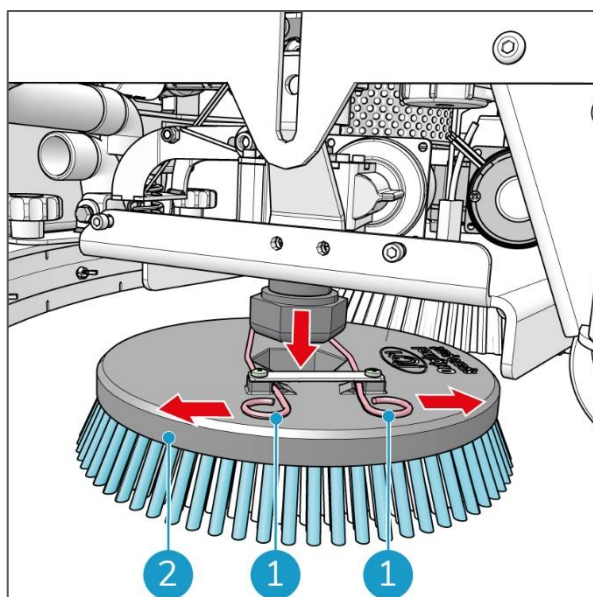

Figure 41
5. Push the two springs (Figure 41, pos 1) fully outward until they lock into place, behind the cams. The clamp is now released.
6. Carefully remove the disc brush (Figure 41, pos 2).